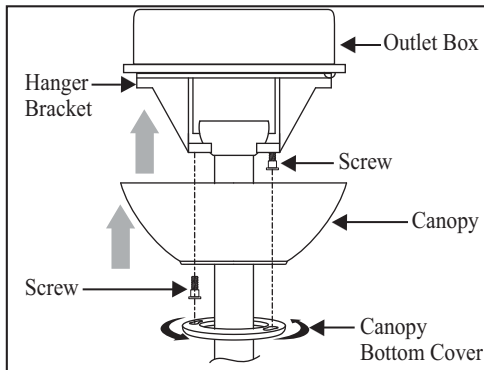

Figure 18
2. Slide the canopy up to hanger bracket and place the key hole on the canopy over the screw on the hanger bracket, turn canopy until it locks in place at the narrow section of the key holes. (Fig. 18)